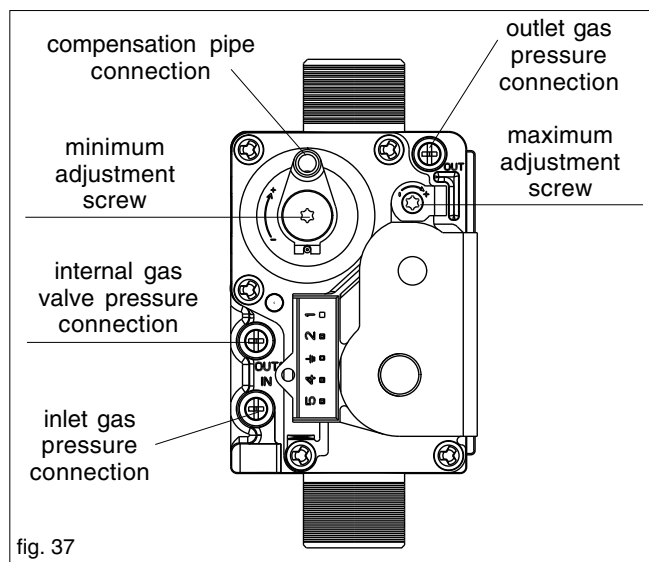

fig. 37
- using a TX 15 key (Torx key), very slowly turn the maximum adjustment screw (see fig. 37) - clockwise to increase, counter clockwise to decrease - until the correct value is displayed on the CO₂ analyser (allow time for the analyser to stabilise).
- locate the minimum adjustment screw (fig. 37), remove the protection plug using a TX 15 key (Torx key)
- using a TX 15 key (Torx key), very slowly turn the minimum adjustment screw (see fig. 37) - clockwise to increase, counter clockwise to decrease - until the correct value is displayed on the CO₂ analyser (allow time for the analyser to stabilise).